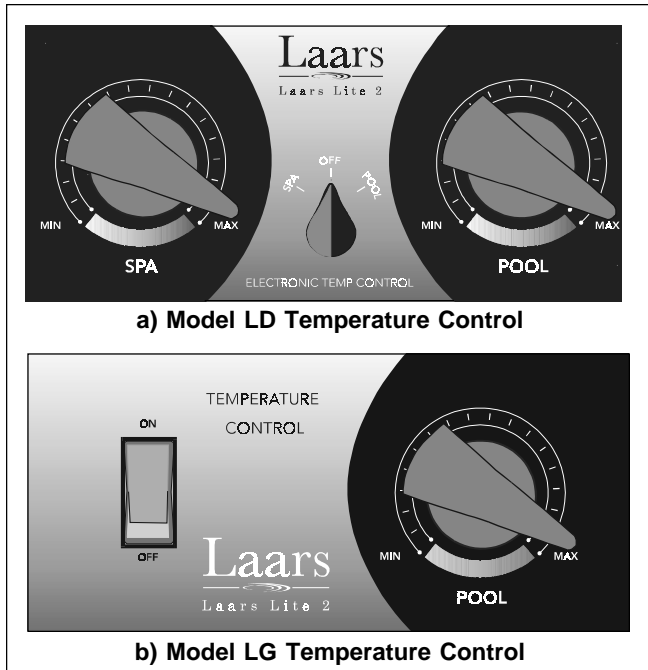

Figure 18. Temperature controls.
1. Set the control panel rotary switch (LD) or the control panel rocker switch (LG) to the OFF position (see Figure 18).
2. Set the rotary switch (LD) or rocker switch (LG) on the temperature control panel (see Figure 18) to OFF.
The temperature control (see Figure 18) is calibrated at the factory and covers a range from approximately 70°F to 104°F (21°C to 40°C). Use an accurate pool thermometer to determine the best water temperature for your uses.
The Laars Lite 2 model LD has dual temperature controls, which allows two different temperature settings, selected by the rotary switch in the middle of the panel. One control can be set for normal use and the other for standby; or one can be set for pool and the other for a spa. Placing the rotary switch in the middle turns off the heater (see Figure 18). The model LG has only a single control and is set similarly to the LD above.